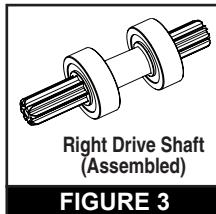

FIGURE 3
RIGHT DRIVE KIT (FIGURE 3 AND 4)
1. Unpackage the new Right Drive Shaft and Bearings. Assemble as shown in **Figure 3**.
2. Ensuring the longer side of the Drive Shaft (1) is facing outwards, press the assembled Drive Shaft into the cleaner.
3. Install the Drive Gear (2) onto the Drive Shaft (1).